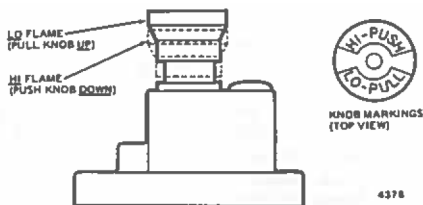

Fig. 8. HI and Lo settings, V5308 pressure regulator.
The HI or LO flame setting is selected by positioning the white knob (Fig. 8) on the regulator. The burner will operate in the low fire position when knob is upward; it will operate in the high fire position when knob is downward.
1. Adjust to LO setting by pulling knob (Fig. 8) upward to its outermost position.
2. Adjust to HI setting by pushing the knob (Fig. 8) downward toward the regulator body.